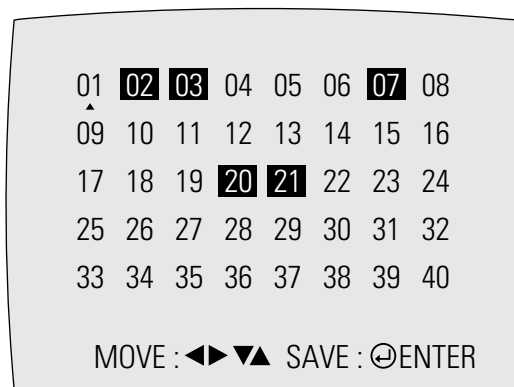

Fig. 3-3
- 2) Press the “1, ” button on the remote control. The option setting appears. (See Fig. 3-3)